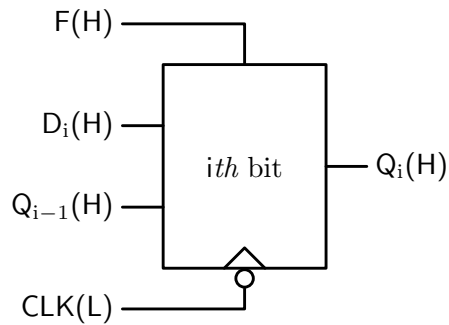

Figure 1—Single bit of a larger shift register
- e) Draw a block diagram showing how you have interconnected the three bits. Your diagram show show the interconnection of three bits, with each bit as depicted in Figure 1.